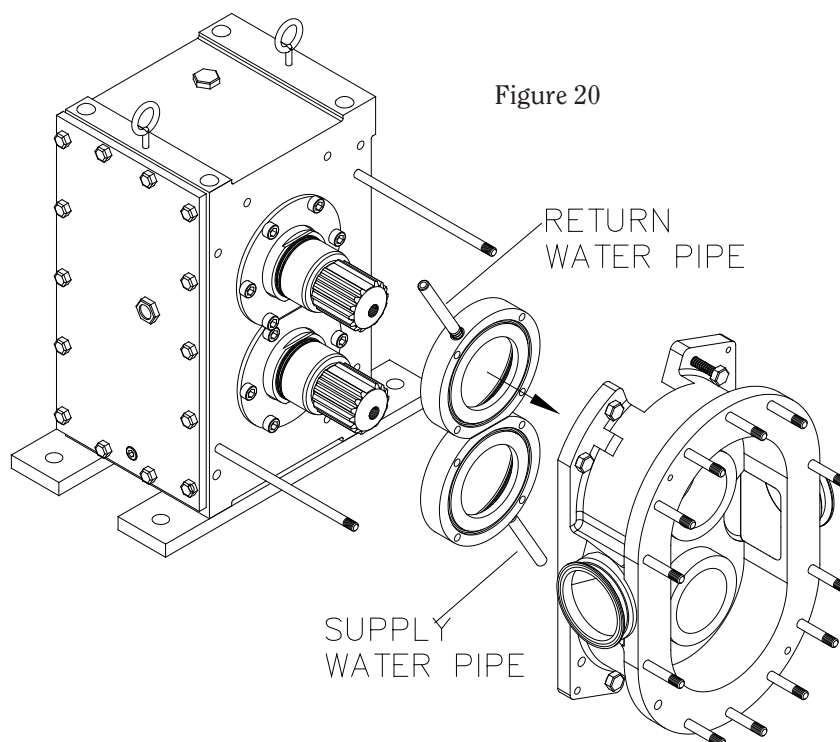

Figure 20
- f) Install the seal flush piping as shown in Figure 20.